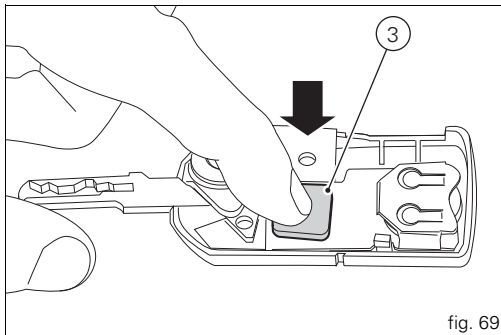

fig. 69
**E** Apply slight pressure on the antenna (3, fig. 69) of the printed circuit board until you hear a click.